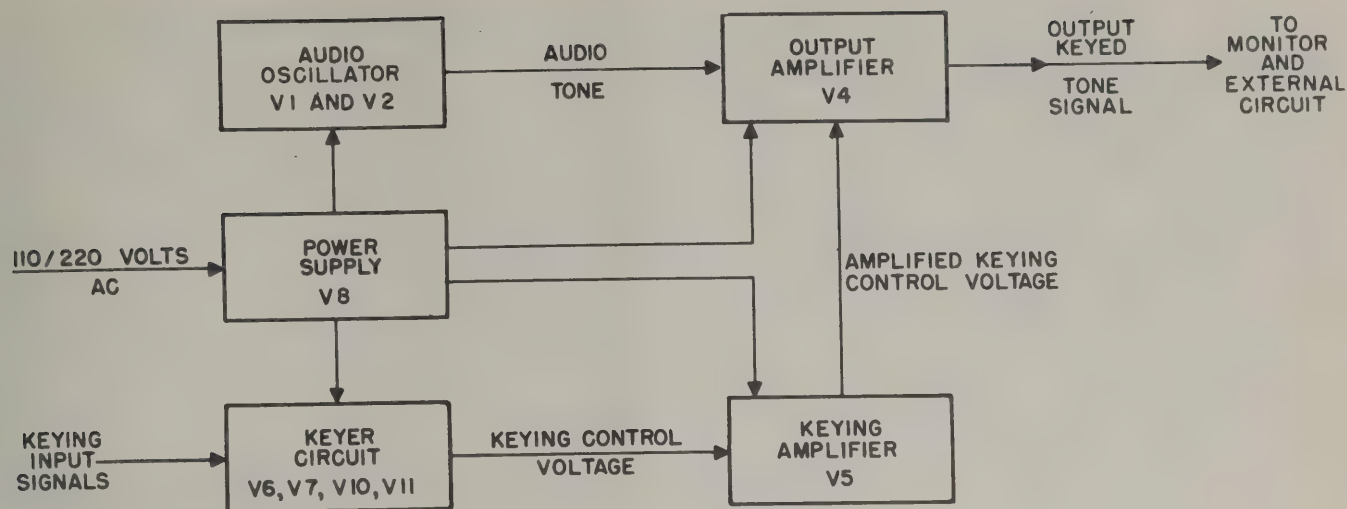

Figure 2-24. Keyer KY-79/UR, Block Diagram
**b. BLOCK DIAGRAM DESCRIPTION.** (See figure 2-24.)—The keying input signal is applied to the keyer circuit, consisting of tubes V6, V7, V10 and V11, where it is converted to suitable keying control voltage for the output stage. The control voltage is amplified in the keying amplifier tube V5, and fed to the output amplifier stage V4. An audio tone produced in the oscillator tubes V1 and V2 is also applied to the output amplifier stage V4. The keying control voltage keys the audio tone in tube V4 on and off. The power supply converts the available electrical power to power suitable for use in Keyer KY-79/UR.